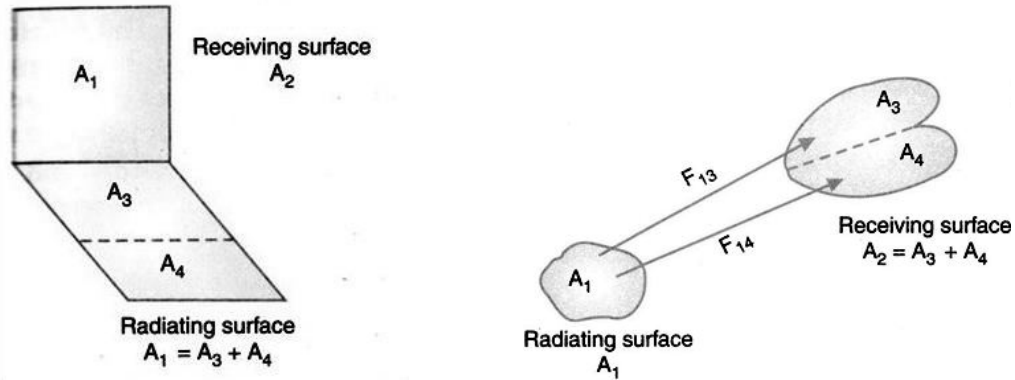

Fig. 6.5 Superposition rule
- With respect to figure 6.5, when the radiating surface A_1 has been split up into areas A_3 and A_4 ,